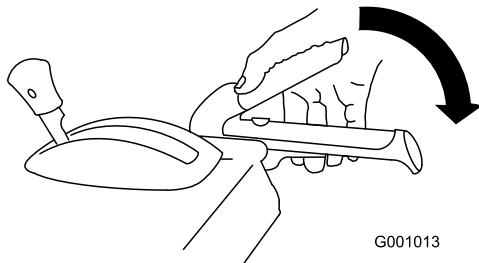

Figure 36
1. To engage the auger/ impeller drive, squeeze the right hand (auger/ impeller) lever to the handgrip (Figure 36).